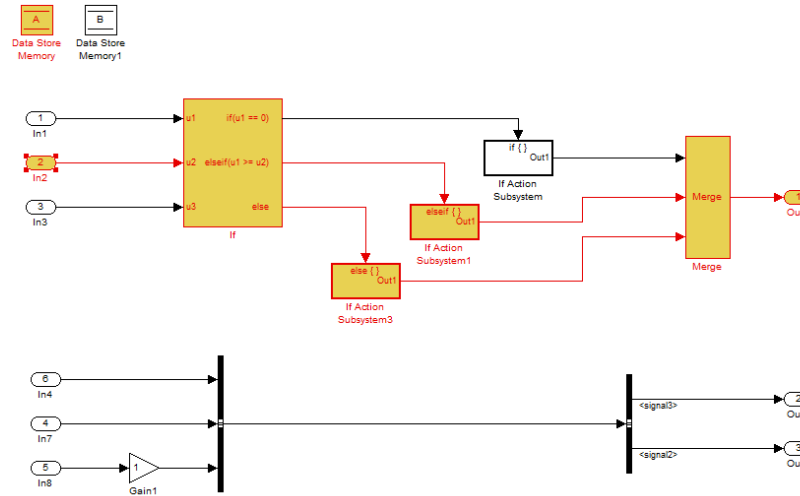

Figure 4: Resulting model after **Reach From Selected** operation.
1. Let us perform a reachability analysis to find all possible dependencies of the **Inport** block **In2**. To do this, right-click on the **In2** block and select the **Reach From Selected** option. The resulting model is shown in Figure 4. Due to the fact that **In2** is used in the last two condition checks of the **If** block and its data flow is traced to **Outputport** block **Out1**. Doing a reachability analysis on **In2** also shows clearly that it impacts the **Data Store Memory** block **A**.